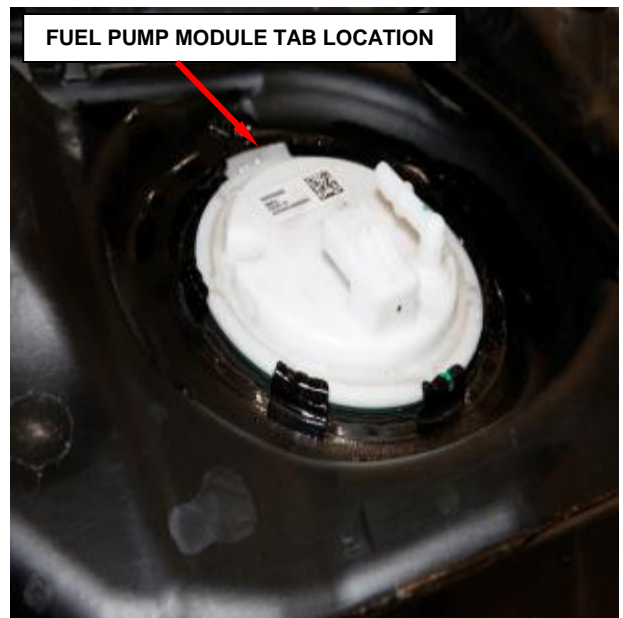

Figure 9 – Fuel Pump Module Orientation
- d. Make note of the fuel pump module orientation (Figure 9).